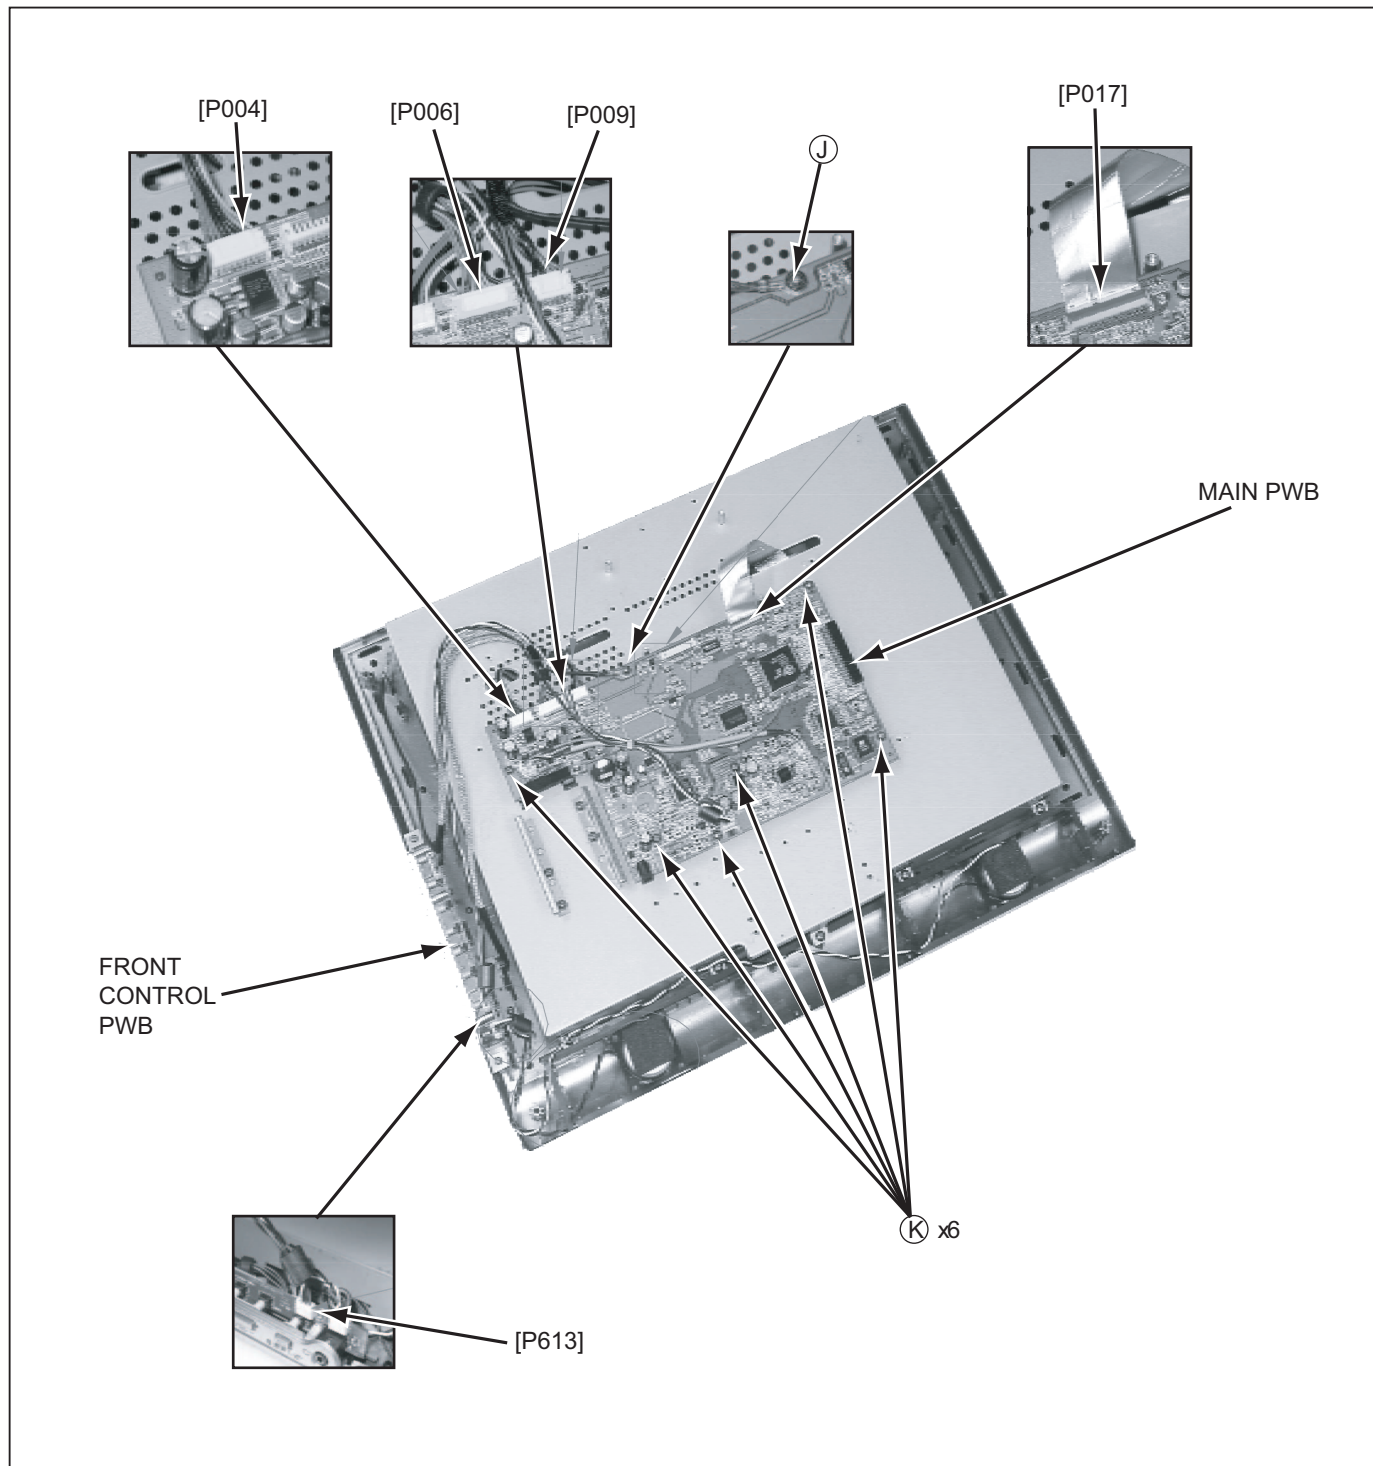

Fig.6
3.1.7 REMOVING THE MAIN PWB (Fig.6)